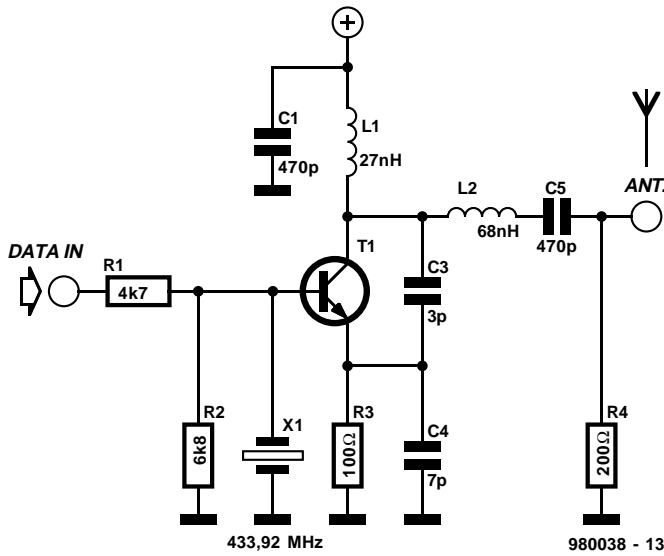

Figure 3. Circuit diagram of an ultra-simple 433-MHz SRD transmitter using amplitude modulation (not type-approved by RA).
The simplest versions of SRDs used to rely on an amplitude-modulated transmitter (Figure 3) and an associated regenerative receiver (Figure 4). Note that such systems are probably no longer allowed under RA specification MPT 1340. The transmitter consists of a one-transistor oscillator. Modulation is obtained by applying the data signal to the base of the transistor. A single surface-acoustic wave (SAW) resonator is used as the frequency-determining element. A highly similar circuit for experimental use was published in *Elektor Electronics* July/August 1993, page 54. Note, however, that this design is based on frequency modulation (FM) using two varicap diodes, while the SAW has a fine-tuning adjustment.
The range of the simple system shown in Figures 3 and 4 is much smaller than that of more expensive units, mainly because of the low transmit power (approx. 1 mW) and the rel-